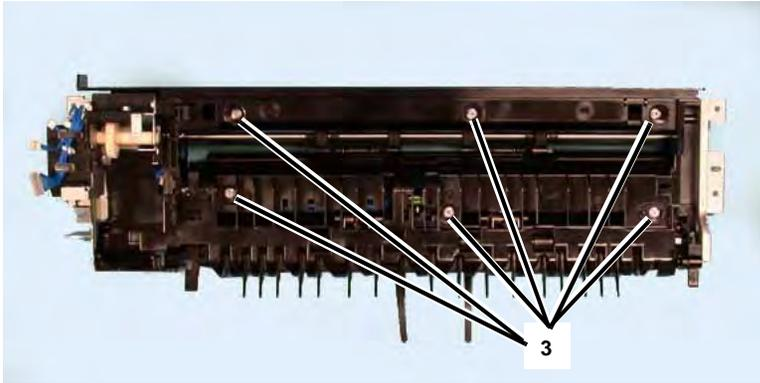

Figure 1 Removing Screws
3. Remove the screws (6) and the Exit 2 Guide Assembly (Figure 1).